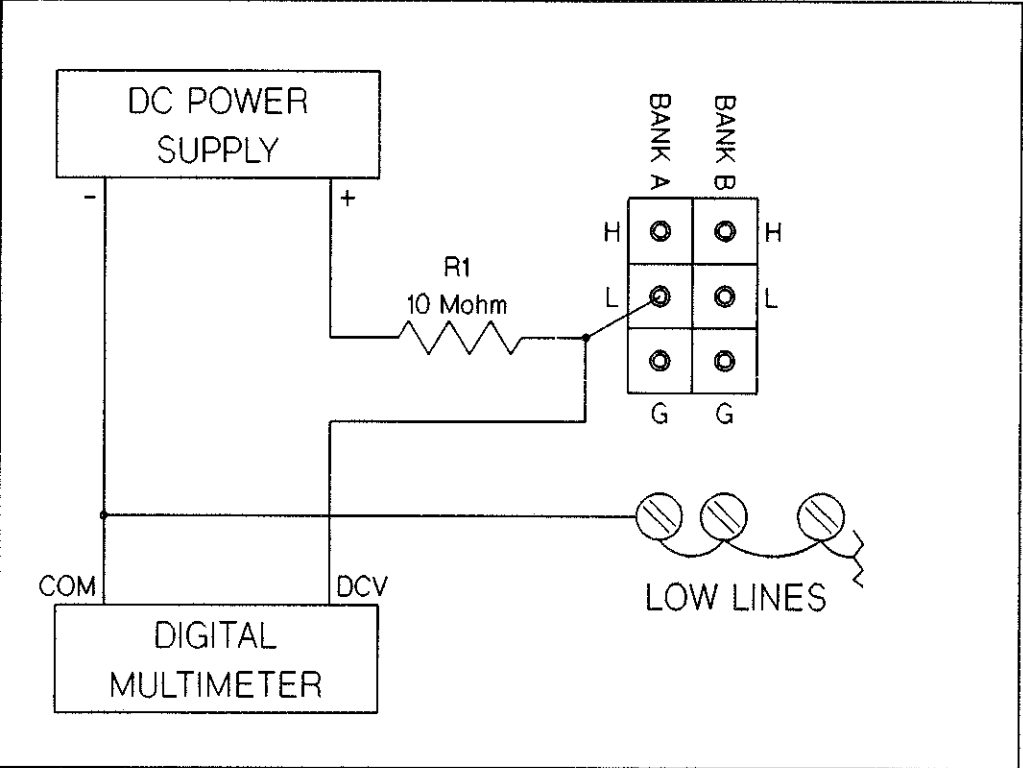

Figure 8-17 HP 44705A/H Bank A LOW to Common DC Isolation
14. Connect the test circuit between the Bank A LOW common test point and the shorted LOW lines of the test fixture as shown in Figure 8-17.